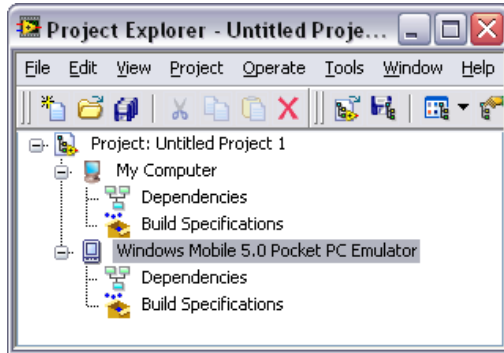

Figure 5. Expanding the PDA Target in the Project Explorer Window
- Expand the PDA target. In Figure 5, the PDA target is **Windows Mobile 5.0 Pocket PC Emulator**. LabVIEW automatically adds **Dependencies** and **Build Specifications** under the target. SubVIs appear under **Dependencies** when you add a VI that contains subVIs to a project. Build specifications you create for a target in a project appear under **Build Specifications** in the **Project Explorer** window. Refer to the Creating the PDA Build Specification section for more information about creating a build specification.